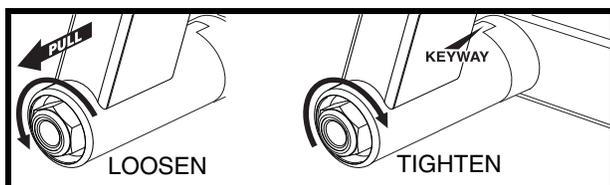

Figure 8A. Pivot Weldment
1. Pull the pivot weldment out to disengage keyway. You may need to loosen the pivot nut with a 3/4 in. socket wrench. **See figure 8A.**
3. Ensure the keyway is engaged then tighten the pivot nut if previously loosened. **See figure 8A.**